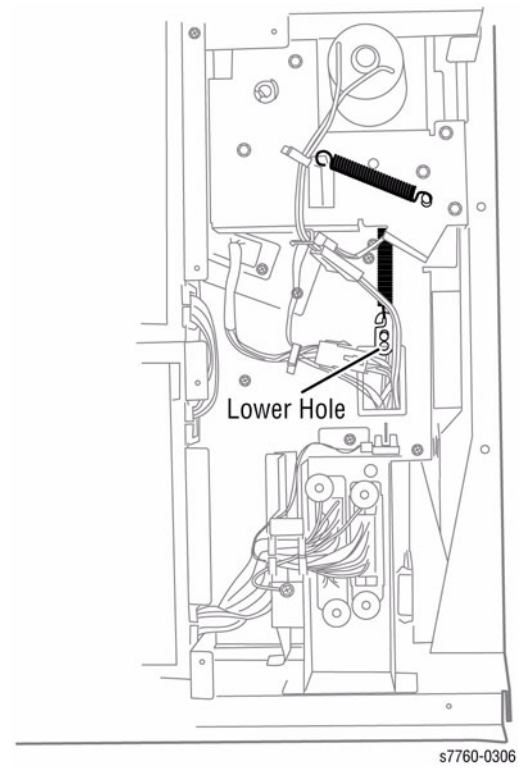

Figure 4 Adjusting the Rear Spring Tension
5. Adjust the rear Spring tension by moving the Spring to the Lower hole (Figure 4).